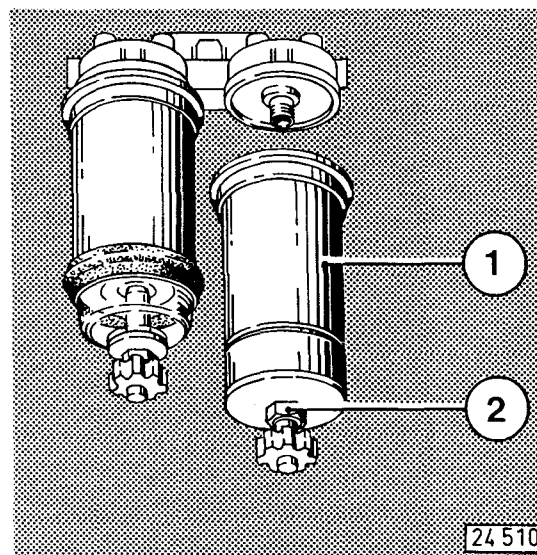

Fig. 58
- Unscrew filter cartridge 1 (Fig. 58) complete with drain plug by means of hexagon 2 at the bottom.